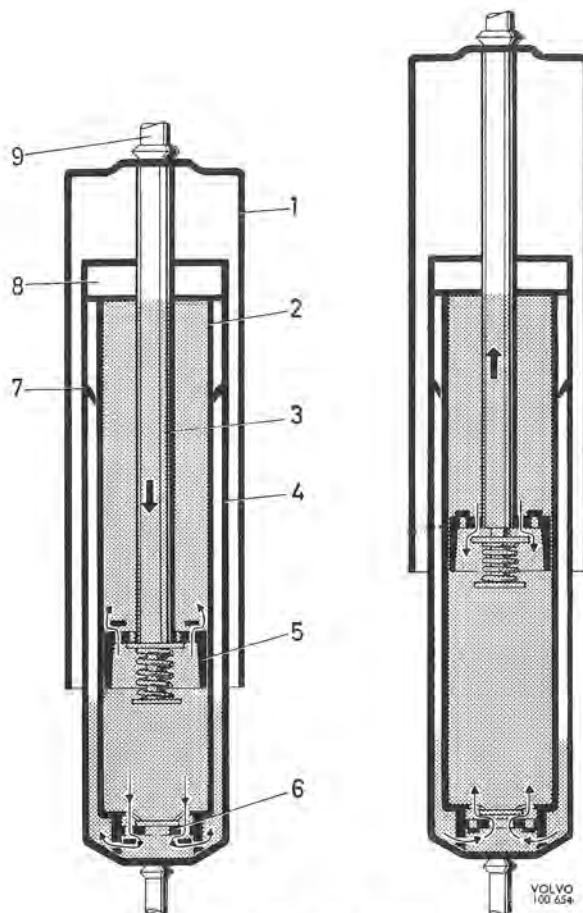

Fig. 7-6. Shock absorber, function
The design of the shock absorbers is shown in Fig. 7-6. The outer cylinder (1) serves only as a protection against dust and dirt. The other two cylinders (2 and 4) are concentrically arranged, one inside the other. The inner cylinder (2) is the actual working cylinder, the lower end of which is provided with a valve (6). Inside the inner cylinder there is a piston (5) in which holes are drilled, the passage of oil through these holes being controlled by valves.